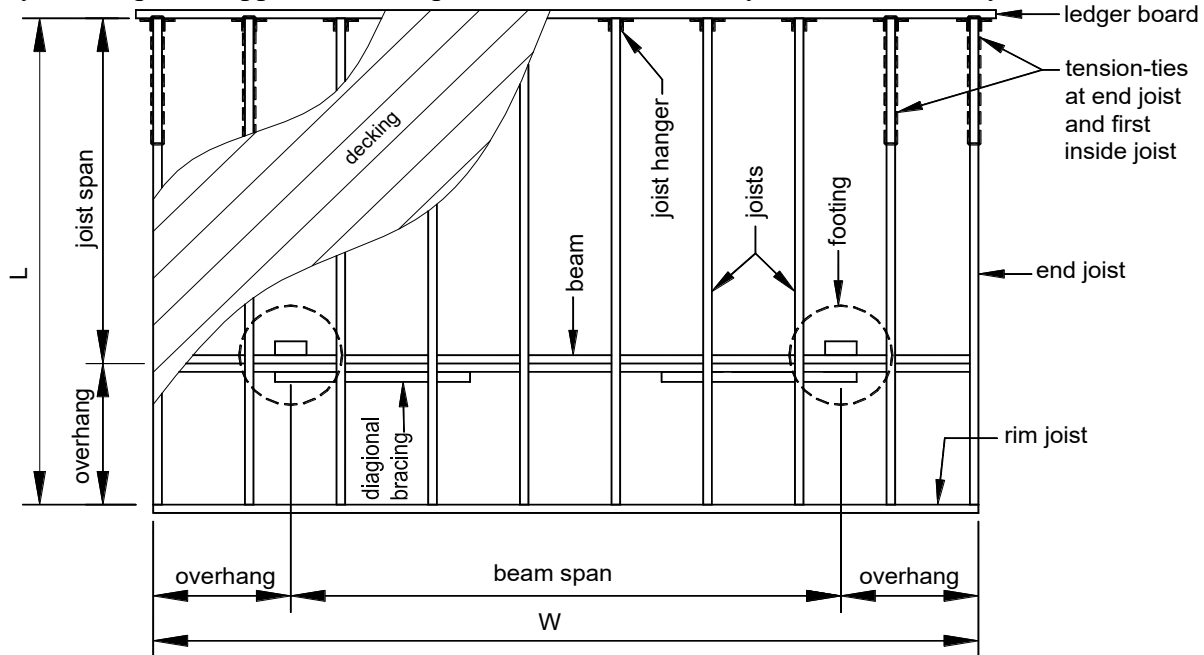

FIGURE 41: TYPICAL DECK FRAMING PLAN
- For decks attached to the existing house, the ratio of the overall deck length to width must be no more than 2 to 1. This requirement can also be verified by ensuring  $L \div W \leq 2$  as shown in FIGURE 41. (This does not apply to free-standing decks or attached decks using lateral support Method 1.)